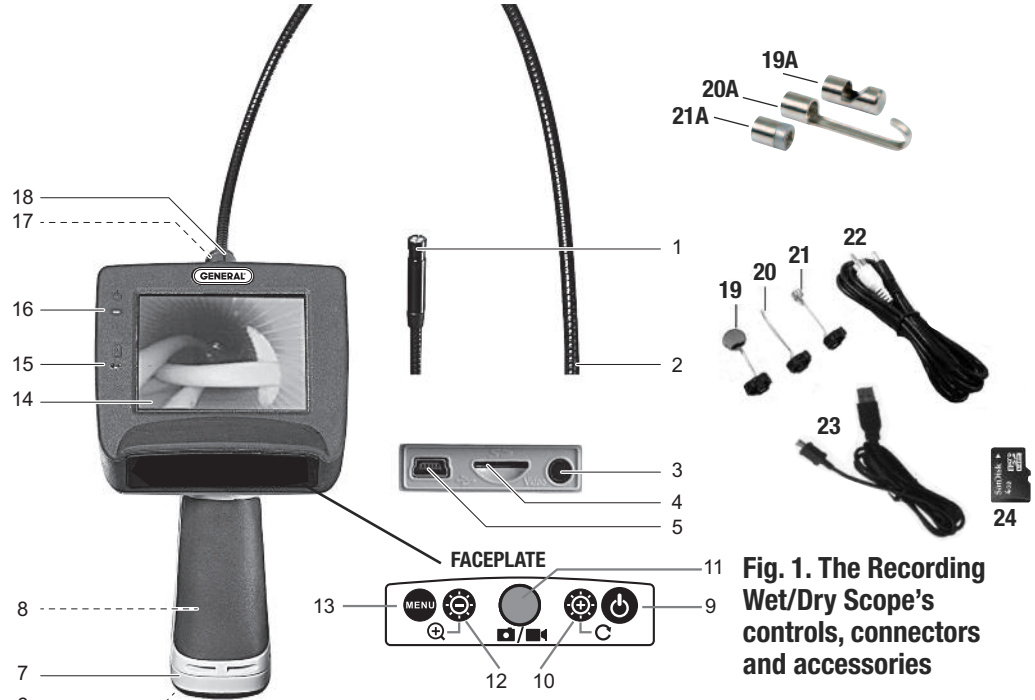

Fig. 1. The Recording Wet/Dry Scope's controls, connectors and accessories
Fig. 1 shows the labels and positions of the controls and connectors on the front panel, top, bottom and right side of the Recording Wet/Dry Scope. Familiarize yourself with the controls' functions before moving on to the Setup Instructions.
The scope's battery compartment is accessible from the bottom of the pistol grip (Fig.1, Callout 8).
1. Use a Phillips-head screwdriver to turn the screw securing the compartment's cover (Fig. 1, Callout 6) counterclockwise until the head of the screw pops up, flush with the surface. It is not necessary to remove the screw.
If you wish to view real-time video captured by the scope's probe on an NTSC- or PAL-format television, insert the mini-plug end of the supplied video cable into the Video jack on the right side of the monitor (Fig. 1, Callout 3). Plug the yellow RCA connector at the other end of the cable into the television's "Video In" jack.
To power on the scope, press the  button (Fig. 1, Callout 9). This will cause the green Power On  LED (Callout 16) to light. The LCD will illuminate and show real-time video from the camera at the tip of the probe.